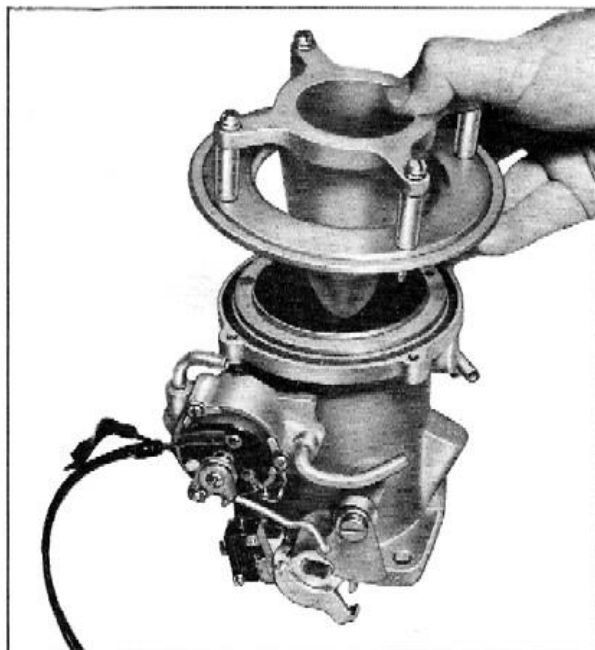

Fig. 14 Removing Diffuser Cone and Venturi Ring
2. Unscrew four diffuser cone attaching screws and remove diffuser cone, spacers, venturi ring, rubber gasket and attaching screws, Fig. 14.